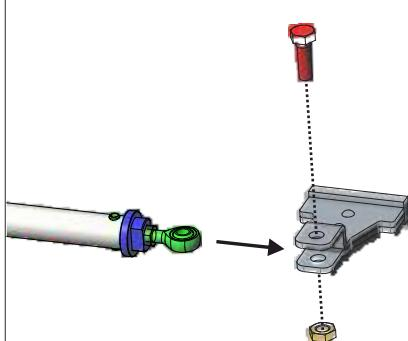

Fig. 25
- Place the operator shaft in the housing of the front bracket - Fig. 25
- Secure the shaft to the front bracket by tightening the screw - Fig. 25